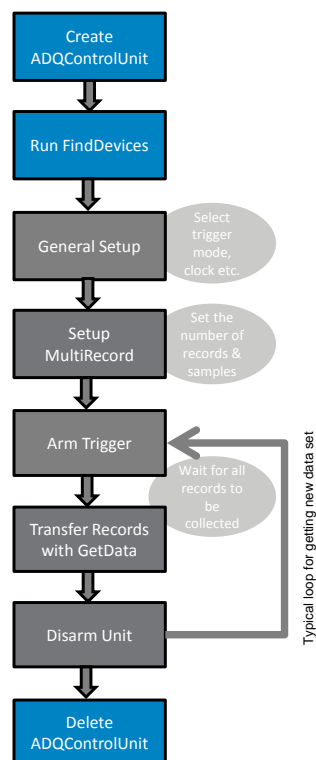

Figure 2: A high level flowchart for the multi-record mode.
- Digitizer is capturing data, data is sent to host and then whole loop is armed again. See the flowchart in Fig. 2.